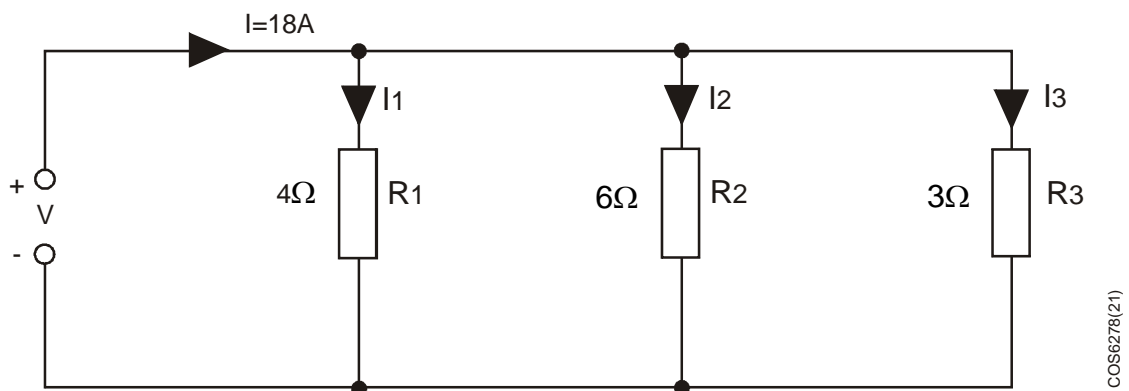

Figure 49
8. Given the information shown in Figure 49 below, calculate the current in each resistor.